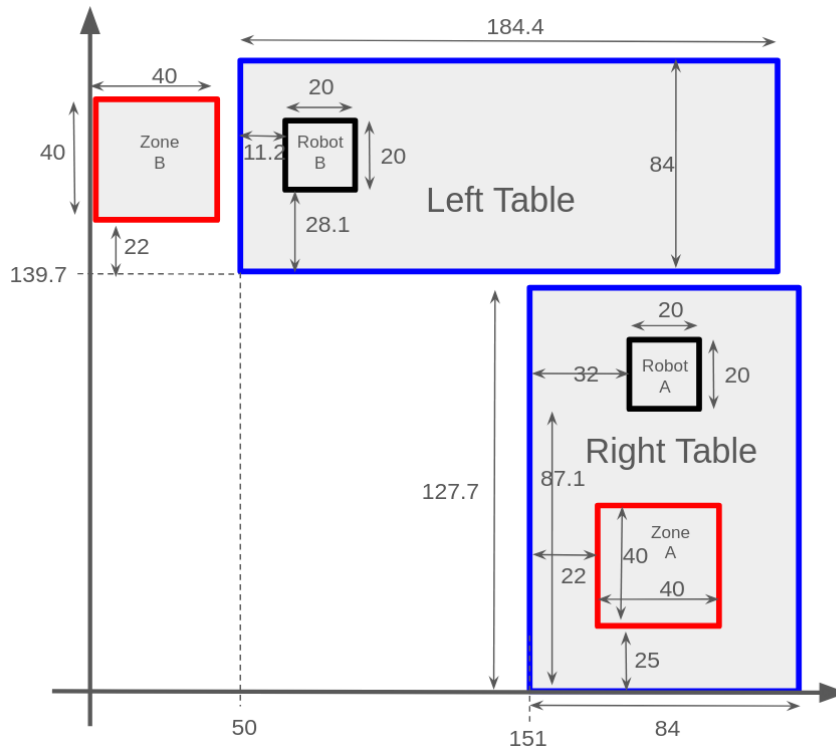

Figure 2
5. **Validate measurements (!)-** Make sure the environment is as defined in the code (this should be the same as the measurements depicted in Fig. 2.).